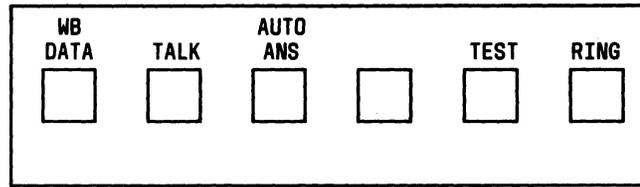

Fig. 4—Button Designations for Option Functions
- (f) Remove, tape and store (SR) wire from (M).
- (g) Move (BR-BK) wire from (X) to (4).
- (h) Untape stored (BL-BK) wire of instrument cord and connect it to (X).
- (i) Position PU button (3) to blocked.
- (k) Unstore (S-W) wire and connect it to (LH).
- (l) Unstore (BR-BK) wire and connect it to (LG) associated with (LH).
- (m) Install 52A-type lamp in (H) button socket.
2.008 The 804W provides the same options as those provided by the 804A-type DAS in 303 wideband applications. Figure 4 shows the option functions available. The actual options used are described in the section associated with the particular 303 application.